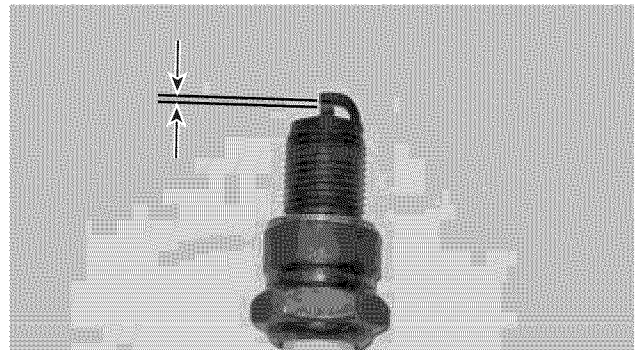

Figure 35 – Spark Plug Gap Requirements
- Spark plug gap (the acceptable limit of 0.024 – 0.032 in. [0.60 – 0.80 mm]) (see *Figure 35*).